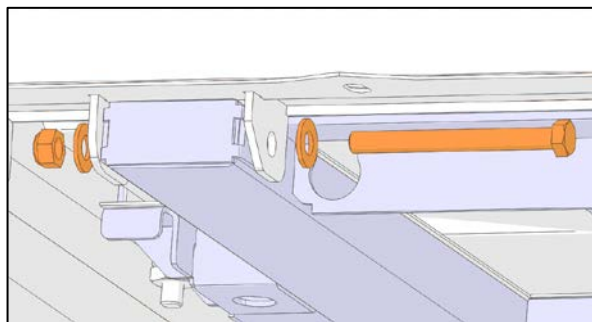

Figure 4 : Transverse Screws, 2 locations
6. On the transversal screw joints, (Figure 4) any visible gap between cradle support tubing and vehicle frame mounting lugs is not acceptable. It could indicate safety recall SR17-28 has not been performed on the vehicle.